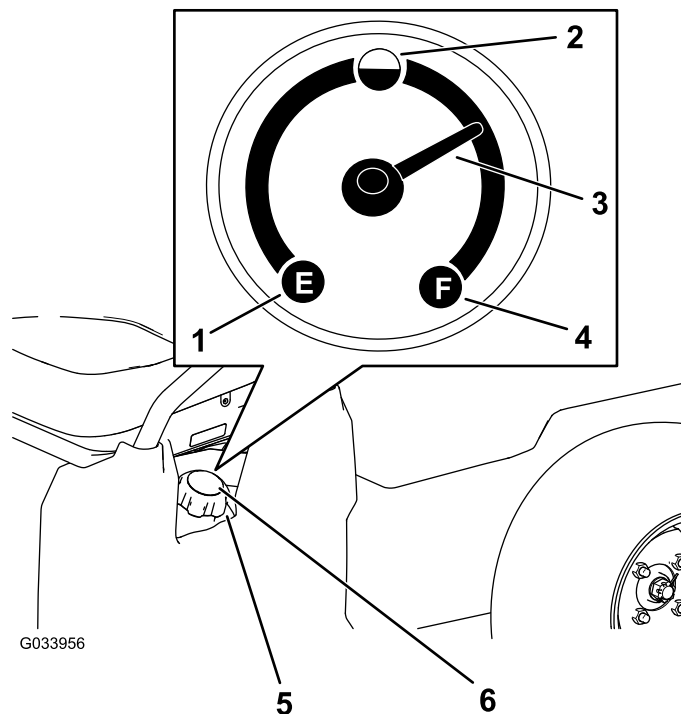

Figure 19
2. Clean the area around the fuel-tank cap (Figure 19).